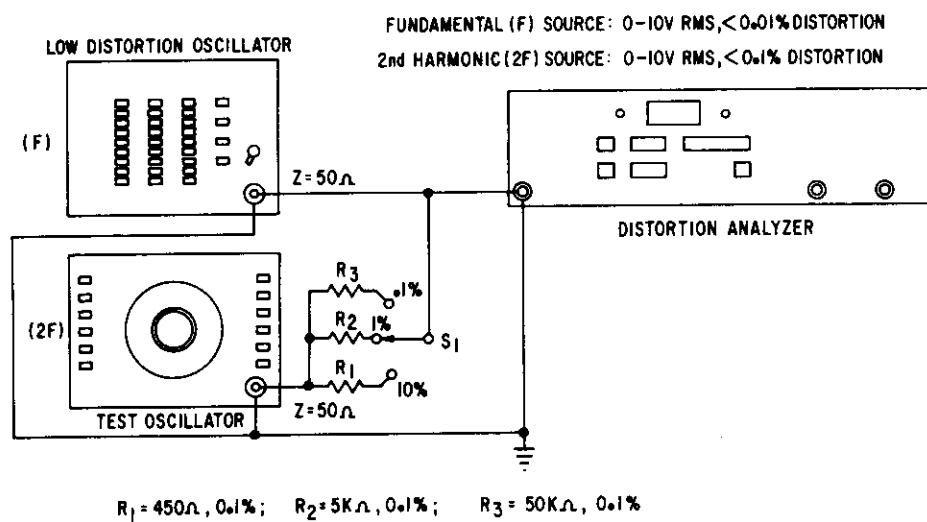

Figure 8. Calibration Set-up
- a. Set oscilloscope to the X-Y display mode; .1mV/cm. Connect oscillator (LD) output to the oscilloscope X input (horizontal). Adjust oscilloscope for a full screen deflection. Using X10 probe, connect oscilloscope Y input (vertical) to TP32. Press 30kHz filter (LED will come on). Check to see that Lissajous pattern is closed and flat. If off, adjust R791 and R810 to correct Lissajous pattern.
- a. Connect the test equipment as shown in Figure 8. Adjust oscillator (LD) 50 ohm output for exactly 5V rms at 200Hz. Adjust output of 2nd oscillator for exactly 4V rms at 2kHz. Press Distortion % key. Check for a display reading of .80% \pm .01%. If off, adjust R654 for correct reading.
- c. Set oscillator (LD) to 11kHz. Set 2nd oscillator to 110kHz. Check for a display reading of .80% \pm .01%. If off, adjust R670 for correct reading.
- d. Set oscillator (LD) to 100kHz. Set 2nd oscillator to 500kHz. Check for a display reading of .072% \pm .002%. If off, adjust R909 for correct reading.
Distortion; 1% (see Figure 8 on page 29)